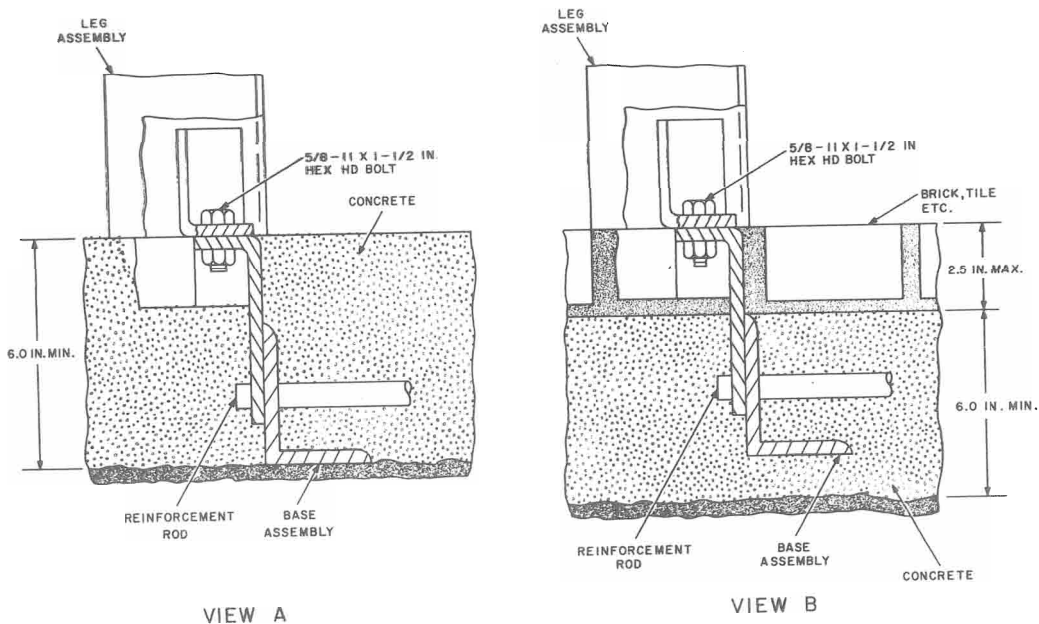

Fig. 15—Positioning Base Assembly in Concrete
3.04 The base assembly must be embedded in 6 inches of concrete to provide a permanent foundation for the booth. Position assembly as shown in Fig. 15(A) if concrete serves as kiosk floor or as shown in Fig. 15(B) if some additional material (brick, tile, etc) serves as the floor.
- (2) Tamp 6 inches of cinders or gravel in the bottom of the form.
- (3) Position the two B-992047 bases per Fig. 15(A) or 15(B) and insert the four steel reinforcement rods (Fig. 6).
- (4) Using the six 5/8-11 by 1-1/2 inch bolts furnished with base assembly, install the KS-20255, List 12 mounting template on the two bases to ensure proper alignment.